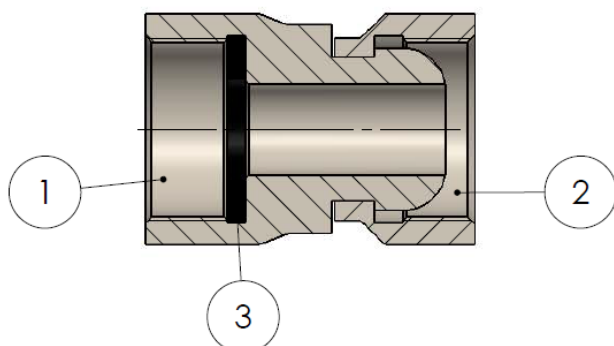

Figure 49 - Discharge hose coupling
Check the flat gasket (Pos. 3 in Fig. 49) is set inside the coupling. Screw the coupling thread (1) on the 3/4" check valve with a wrench of 32 mm. The reference value for the mounting torque is approx. 40 Nm.